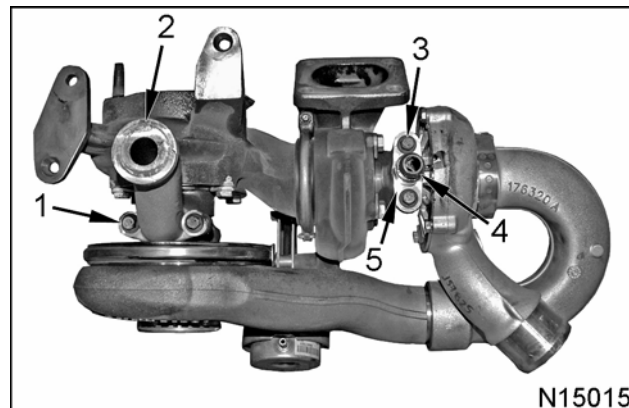

Figure 147 Turbocharger oil drain tubes
3. Install high-pressure turbocharger oil drain tube (Figure 147) on the high-pressure oil drain lower housing assembly.